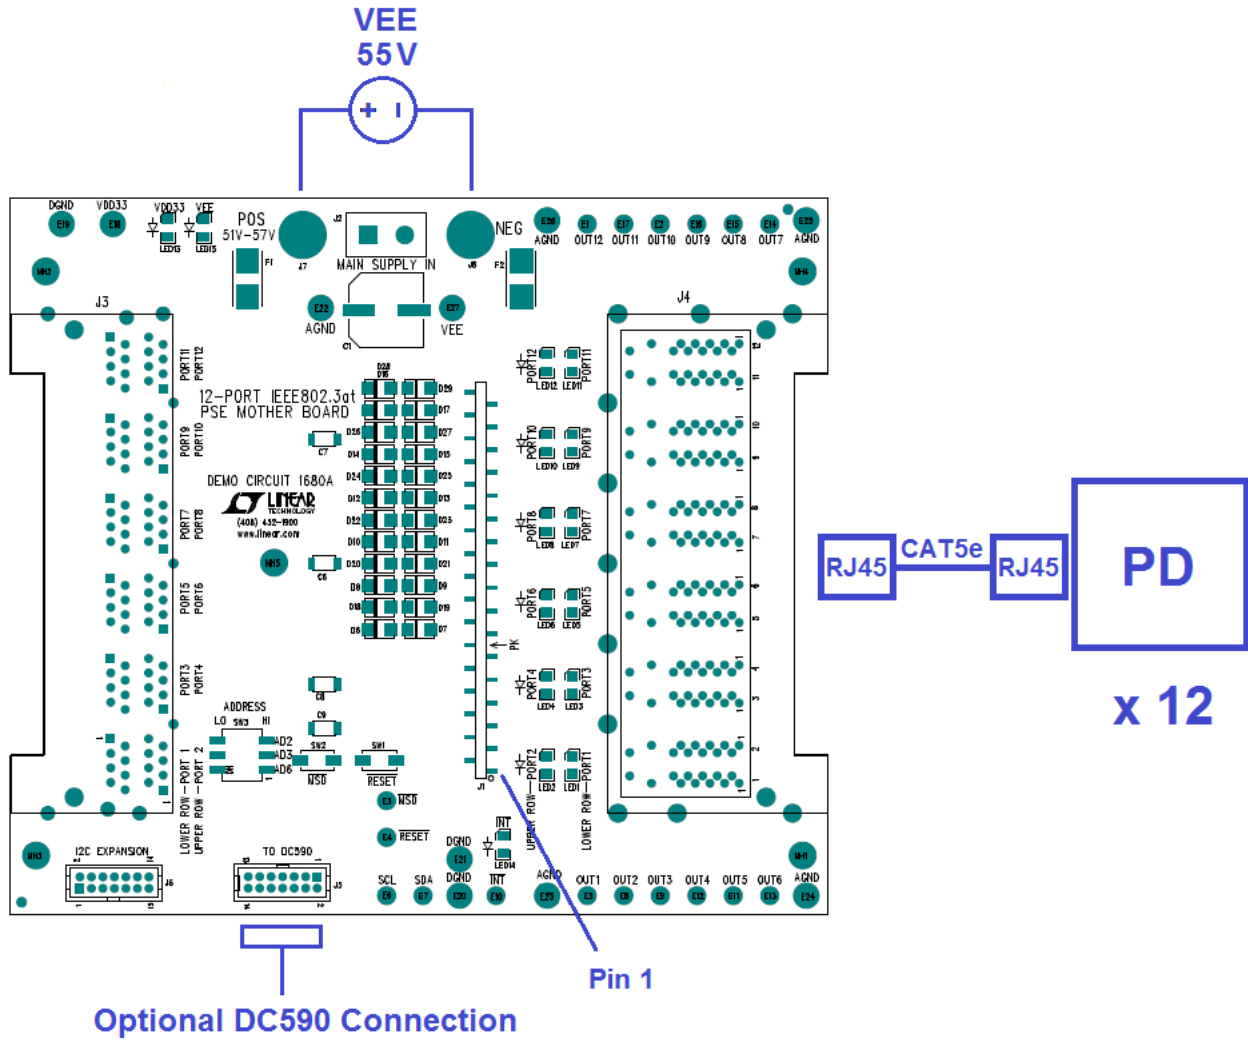
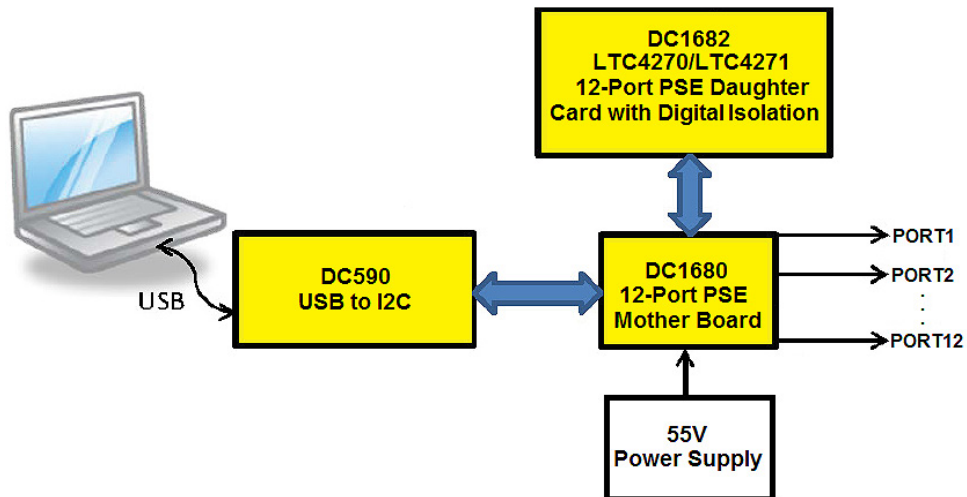

Figure 3. DC1840 Basic Setup
Figure 4. System Setup with the DC590, DC1680, DC1682 and 55V Power Supply
4. On the DC1680, connect a supply with the positive rail to POS and negative rail to NEG (Figure 3). Use a power supply capable of sourcing the maximum load expected ($12 \text{ ports} \times 850\text{mA} \geq 10.2\text{A}$). Ramp the supply up to 55V.
5. Connect up to 12 PDs to the DC1680, J4 (Figure 3).
6. The DC590 is optionally connected to the DC1680 connector J5 with a 14-pin ribbon cable (Figure 3). A GUI for the LTC4270/LTC4271 is brought up by QuikEval for I²C interfacing from a PC (Figure 4).
Connect a power supply for V_{EE} with the positive rail to POS and negative rail to NEG as shown in Figure 3 of the Quick Start Procedure. Set the voltage within the range in Table 1 depending on whether the application is a Type 1 or Type 2. Choose a power supply rating and set the current limit high enough to provide power for the maximum number of PDs connected and to meet each PD power requirements.
PDs are connected using an Ethernet cable to any of the 12 ports at the 2×6, RJ45 connector J4 on the DC1680A (Figure 3). J4 has an integrated Ethernet transformer and common mode termination for each port. Test points for port outputs OUT1 through OUT12 are provided.